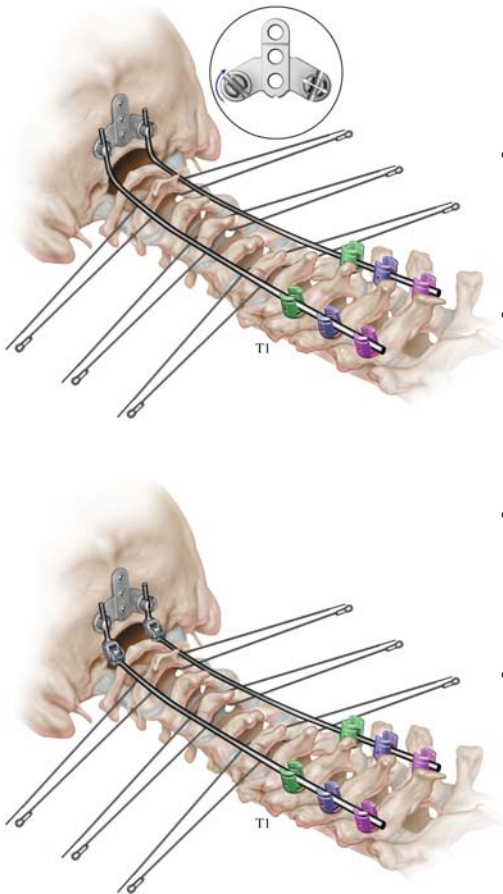

Figure 17
- Place the rod in the Minipolyaxial Screw Heads and then into the slots of the OC Plate. The sliding connectors in the OC Plate should allow nearly parallel alignment of the rods with minimal, if any, additional contouring required in coronal plane (Figure 17).